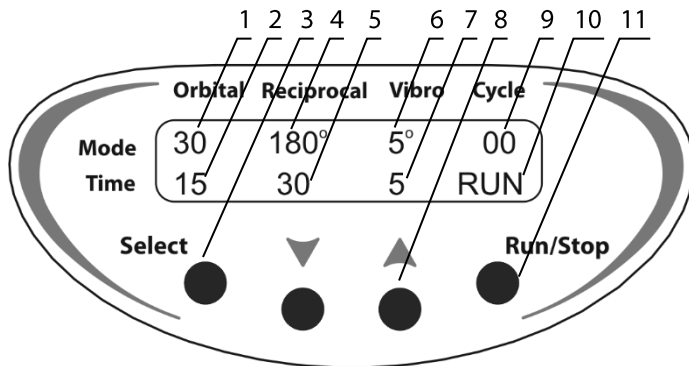

Fig. 3. Control panel of a model Multi Bio 3D
- 5.2.4. Press the **Run/Stop** key (fig. 3/11) to start the program.
- 5.2.5. The platform motion begins and the corresponding indications are shown on the display: operation mode - RUN (fig. 3/10), cycle countdown (fig. 3/9) and the time countdown of current cycle (fig. 3/2, 3/5 or 3/7).
- 5.2.9. If the number of cycles is not set (i.e. cycle number indicator, fig. 3/9 shows zero), pressing the **Run/Stop** key starts continuous operation of the unit until the **Run/Stop** key is pressed again.
- 6.2. Press the **Select** key (fig. 3/3) to choose the parameter to change (the active parameter is blinking).
- 6.3. Use the ▼ and ▲ keys (fig. 3/8) to set the necessary value. Pressing the key down for more than 2 s will make the values change quickly.
- 6.5. Set the speed (fig. 3/1), turning angle (fig. 3/4, fig. 3/6), time for each motion type (fig. 3/2, 3/5 and 3/7) and number of cycle repetitions (fig. 3/9).